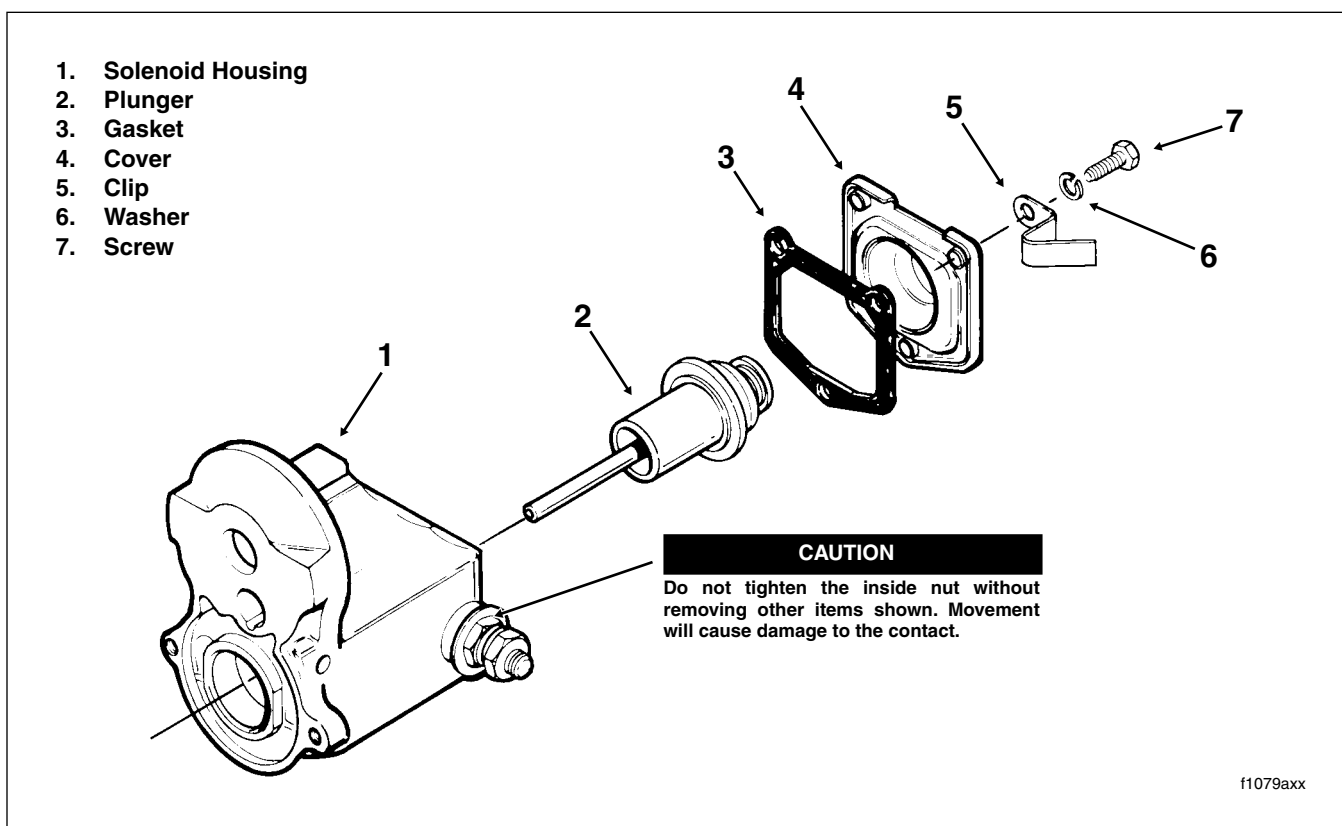

Figure 5-20. Starter Solenoid
1. See Figure 5-20. Remove screws and washers. Clip comes off with screw.